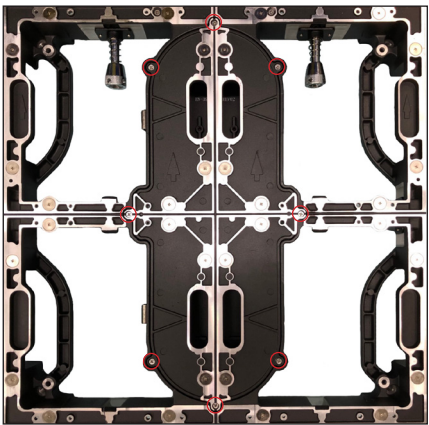

Figure 6: Loosen Eight Screws
2. Use a Phillips screwdriver to loosen the eight screws securing the front-access plate to the panel. Refer to **Figure 6**.